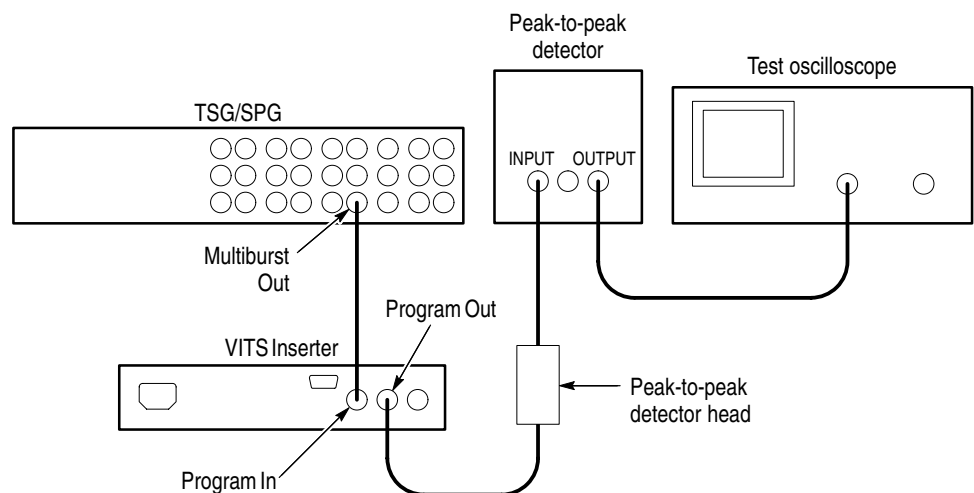

Figure 6-8: Setting flatness
15. Connect the 75 Ω coaxial cable from the TSG/SPG multiburst output to the VITS inserter PROGRAM IN as shown in Figure 6-8.
16. Connect the 75 Ω coaxial cable from the Peak-to-Peak Detector Head Input to the VITS inserter PROGRAM OUT as shown in Figure 6-8.